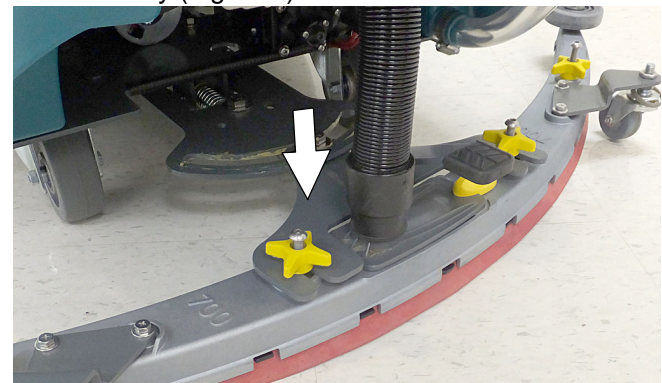

FIG. 6
3. Connect the vacuum hose to the squeegee assembly (Figure 6).